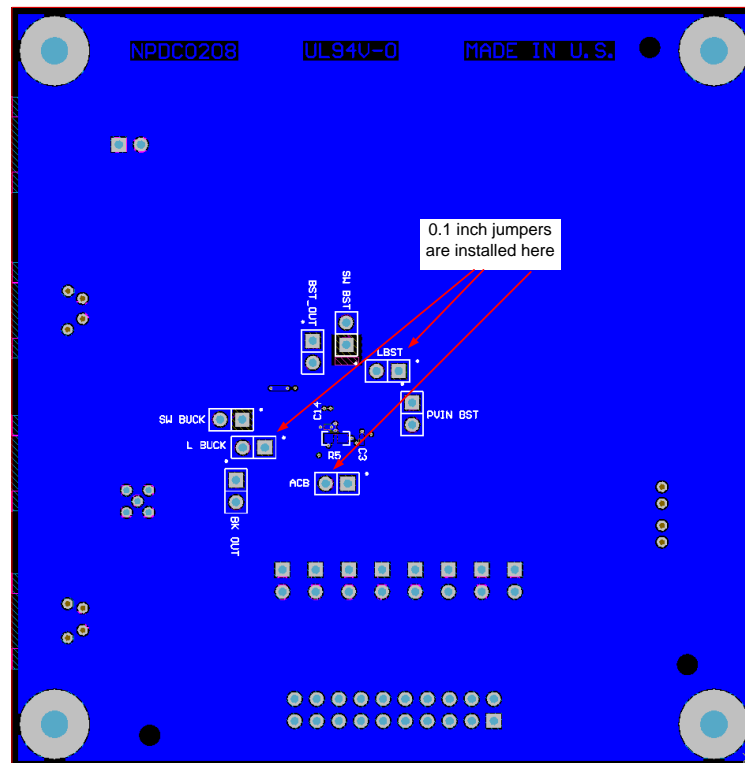

Figure 8. Bottom Layer (Mirrored)
- The LBST, L BUCK & ACB 0.1” center slide-on jumpers located on the back side of the LM3248 Evaluation Board must be installed for proper operation. See Figure 8 for locations on back side of EVM.
Jumpers (see Figure 8 for locations):